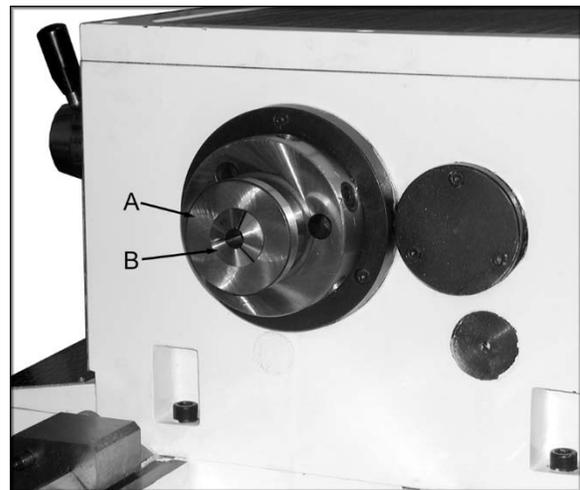

Figure 4
10. Insert collet sleeve into spindle nose (A, Figure 4).
11. Insert collet (B, Figure 4).